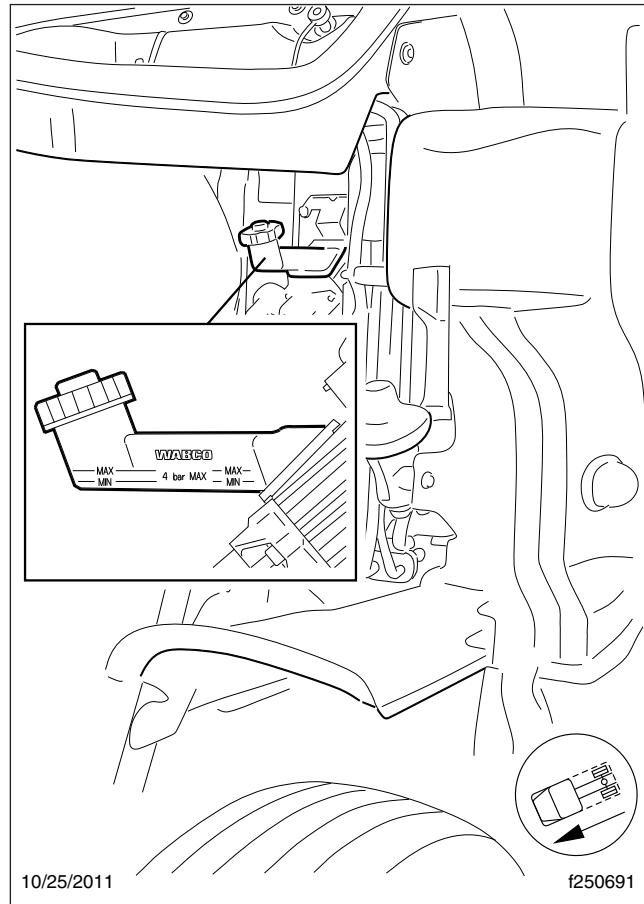

Fig. 3, Reservoir, Hydraulic Clutch Control
If the fluid level is below the MIN line, fill the reservoir with new DOT 4 brake fluid from a tightly sealed container until the level reaches the MAX line. See Fig. 3.
3. Remove the reservoir lid (see Fig. 3) and install the pressure bleed adaptor on the reservoir.